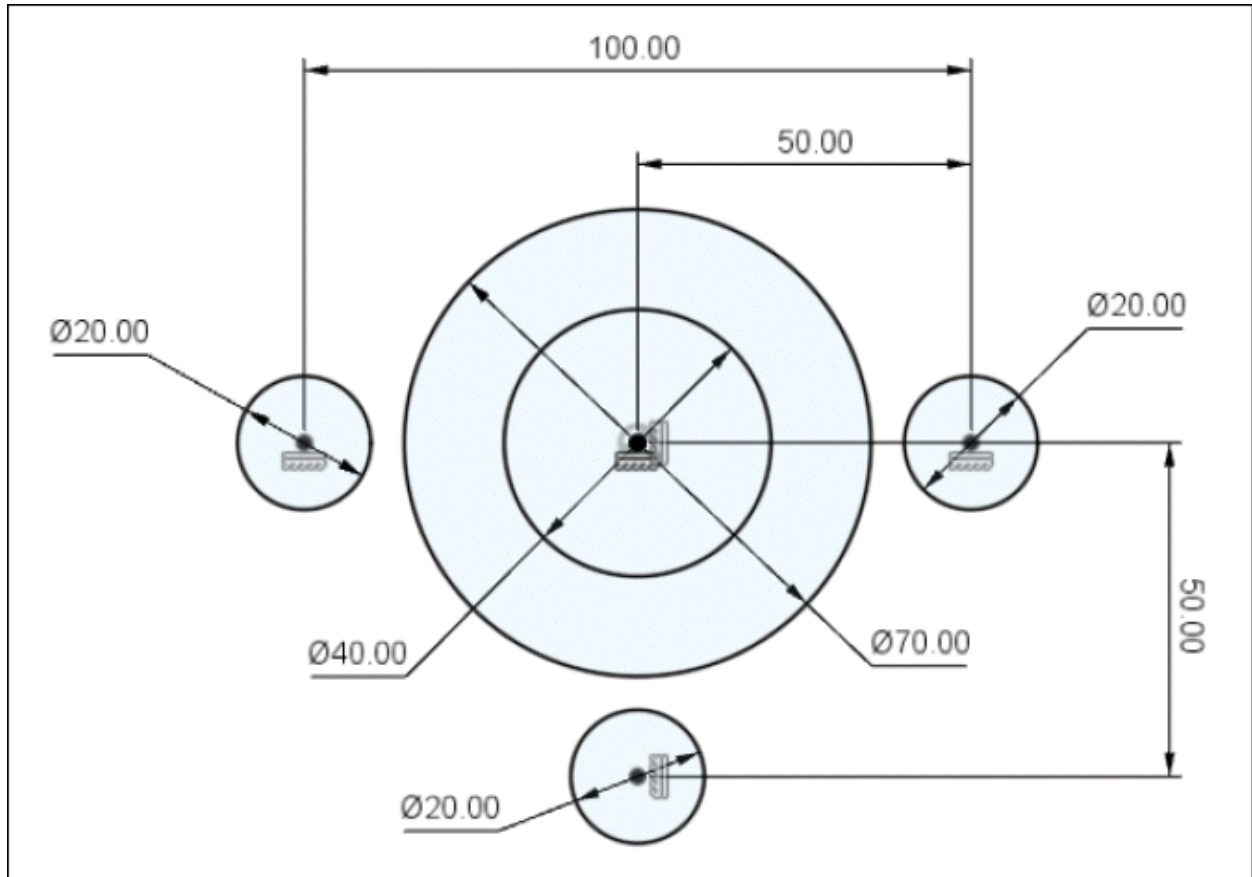

Figure-37. Creating circles
- Create two circles of diameter **70** mm and **40** mm and create three circles of diameter **20** mm each; refer to Figure-37. After creating the circles, apply **Horizontal/Vertical** constraint to the circles.